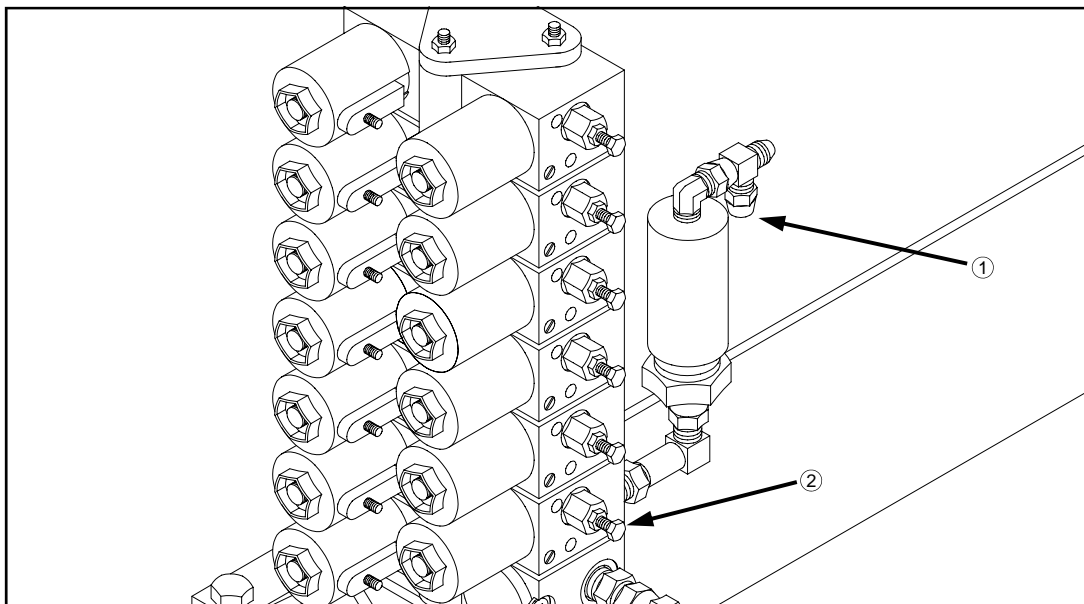

FIG 4.10
Install a 3000 PSI pressure gauge on the inlet of the electro-hydraulic valve (fig. 4.10, item 1). With the engine running at an idle, raise each unit one at a time with the Tasselrol® box while in “MANUAL” mode. Observe the pressure. Adjust each lift cylinder to 1000 PSI.
To increase the pressure of a given lift cylinder, turn the adjustable screw (fig. 4.10, item 2) on the raise orifice clockwise. To decrease the pressure of a given cylinder, turn the adjustable orifice screw counter-clockwise.